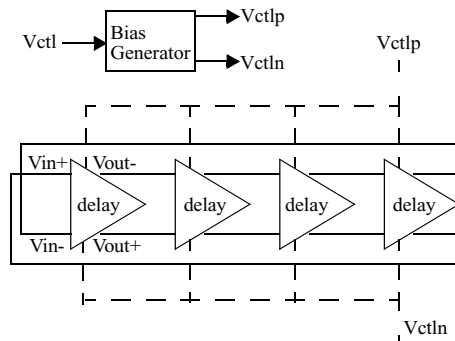

Figure 0.17 Voltage Controlled Ring Oscillator
15. The circuit style shown in Figure 0.17.a has been proposed by Acosta et. al. as a new self-timed logic style. This structure is known as a Switched Output Differential Structure¹.
Figure 0.17 a - SODS Logic Style
In this problem, we will explore a voltage controlled-oscillator that is based upon John G. Maneatis' paper in Nov. 1996, entitled "Low Jitter Process-Independent DLL and PLL Based on Self-Biased Techniques," appeared in the Journal of Solid-State Circuits. We will focus on a critical component of the PLL design: the voltage-controlled ring oscillator. Figure 0.17 shows the block diagram of a voltage controlled ring oscillator: